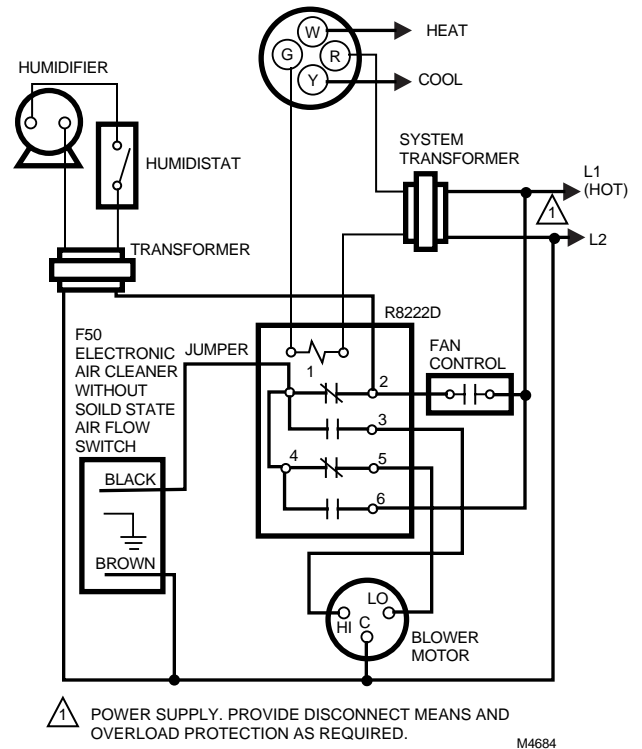

Fig. 24. Two-speed blower motor. F50 without solid state air flow switch is controlled through a dpdt fan relay. Note power humidifier connections.
1. If the system blower is driven by a single-speed, single-phase motor, wire the air cleaner into the fan circuit. See Fig. 24.
- The wiring connections inside the junction box or power box are properly made. See Fig. 24.